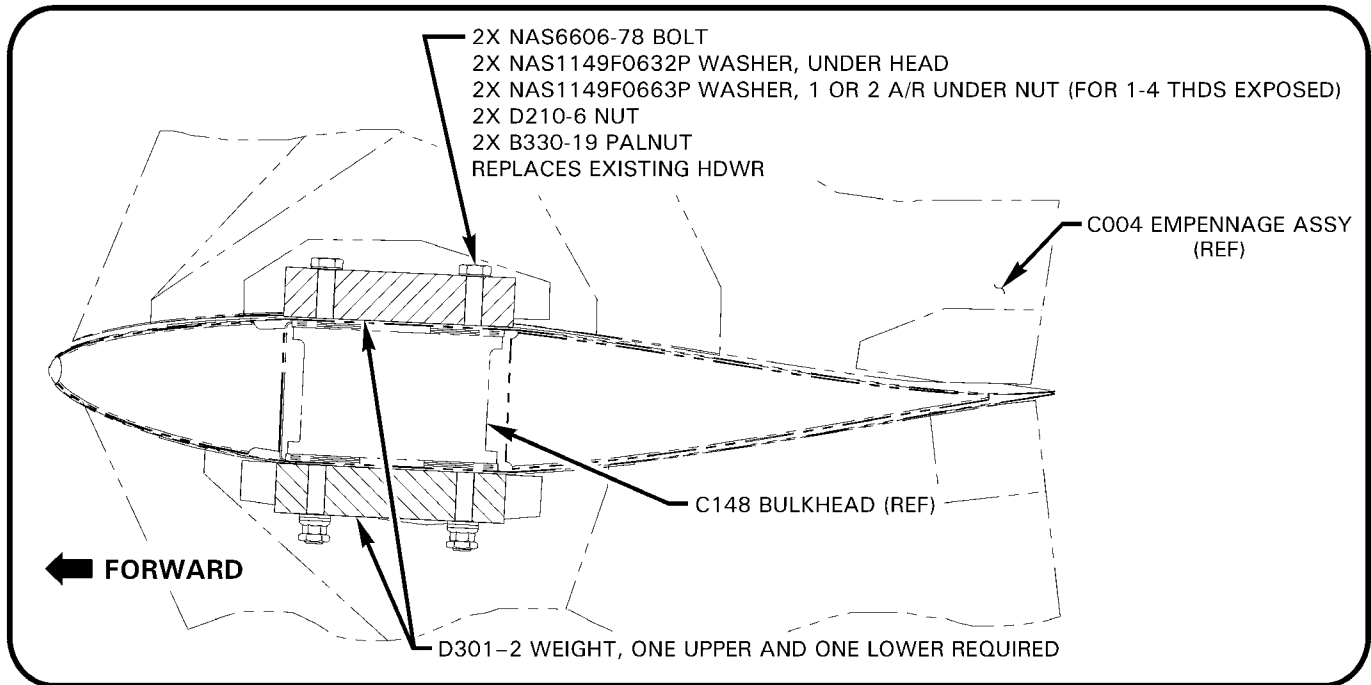

FIGURE 1
4. Refer to Figure 1. Install weights using bolts, washers, and nuts provided. Standard torque per R44 MM § 1.320 or R66 MM § 20-32.